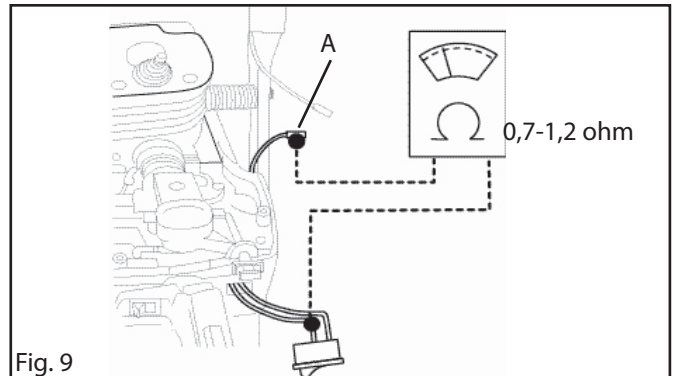

Fig. 9
1. Remove the cylinder cover and disconnect the connector on the red lead at A. See fig. 9.
4. Connect the ohmmeter as shown in fig. 9 and measure the resistance in the rear hand grip heating element. The meter should read 0.7 - 1.2 Ω . If the reading is higher, replace the rear hand grip element.